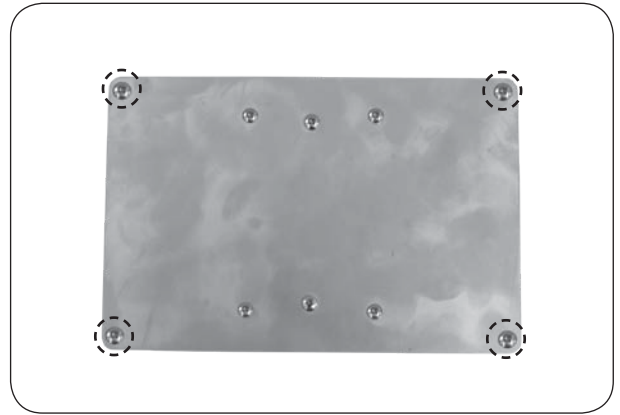

Fig. 10-1 Remove 4 large screws
2. Using a phillips screwdriver, remove the 4 large screws found on the cover of the power supply box (see Fig. 10-1).